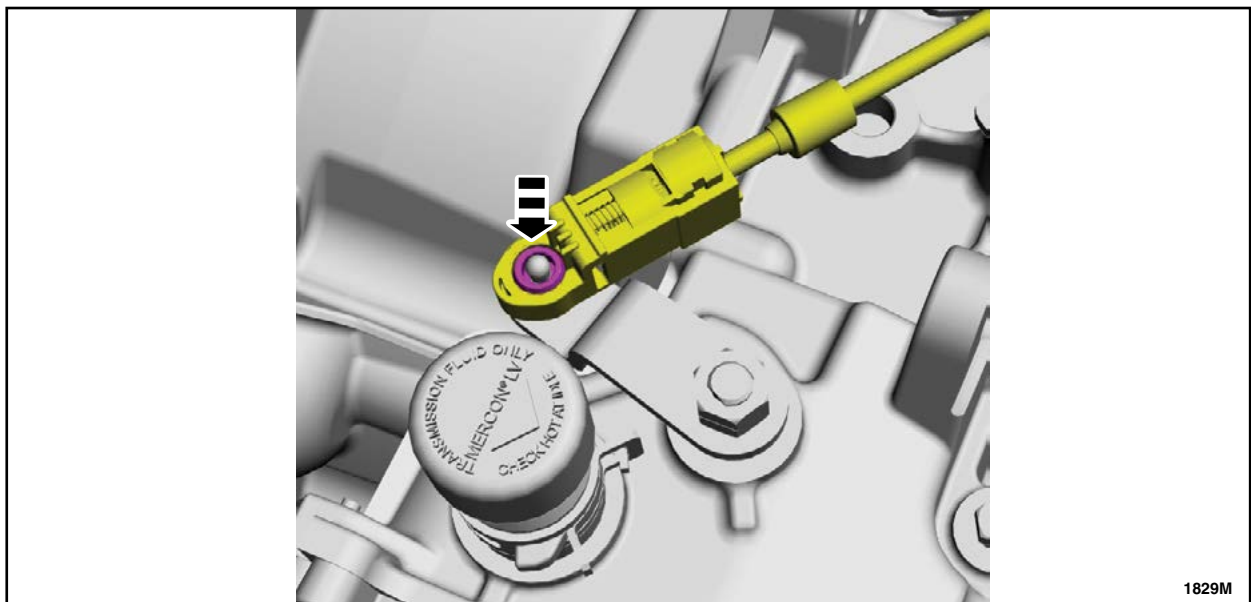

FIGURE 14
14. Connect the selector lever cable to the manual control lever. See Figure 14.